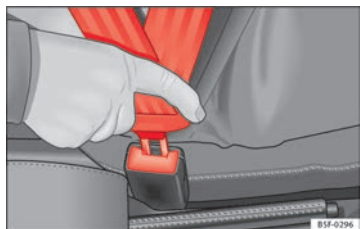

Fig. 11 Belt buckle and latch plate of seat belt.
- Insert the latch plate into the buckle for the appropriate seat and push it down until it is securely locked with an audible click ⇒ Fig. 11.